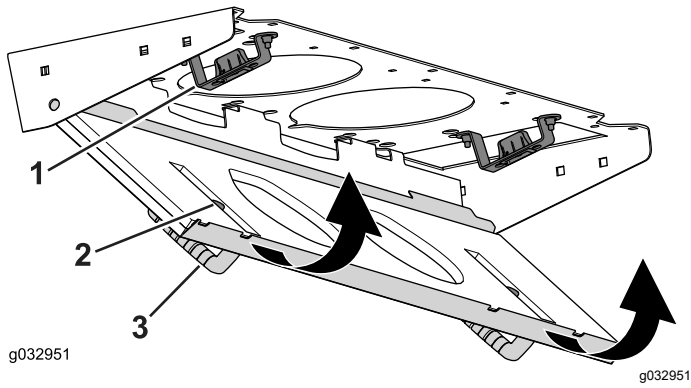

Figure 85
4. Rotate the filter screen around the tabs until the latch locks into the latch-mount assembly (Figure 85).